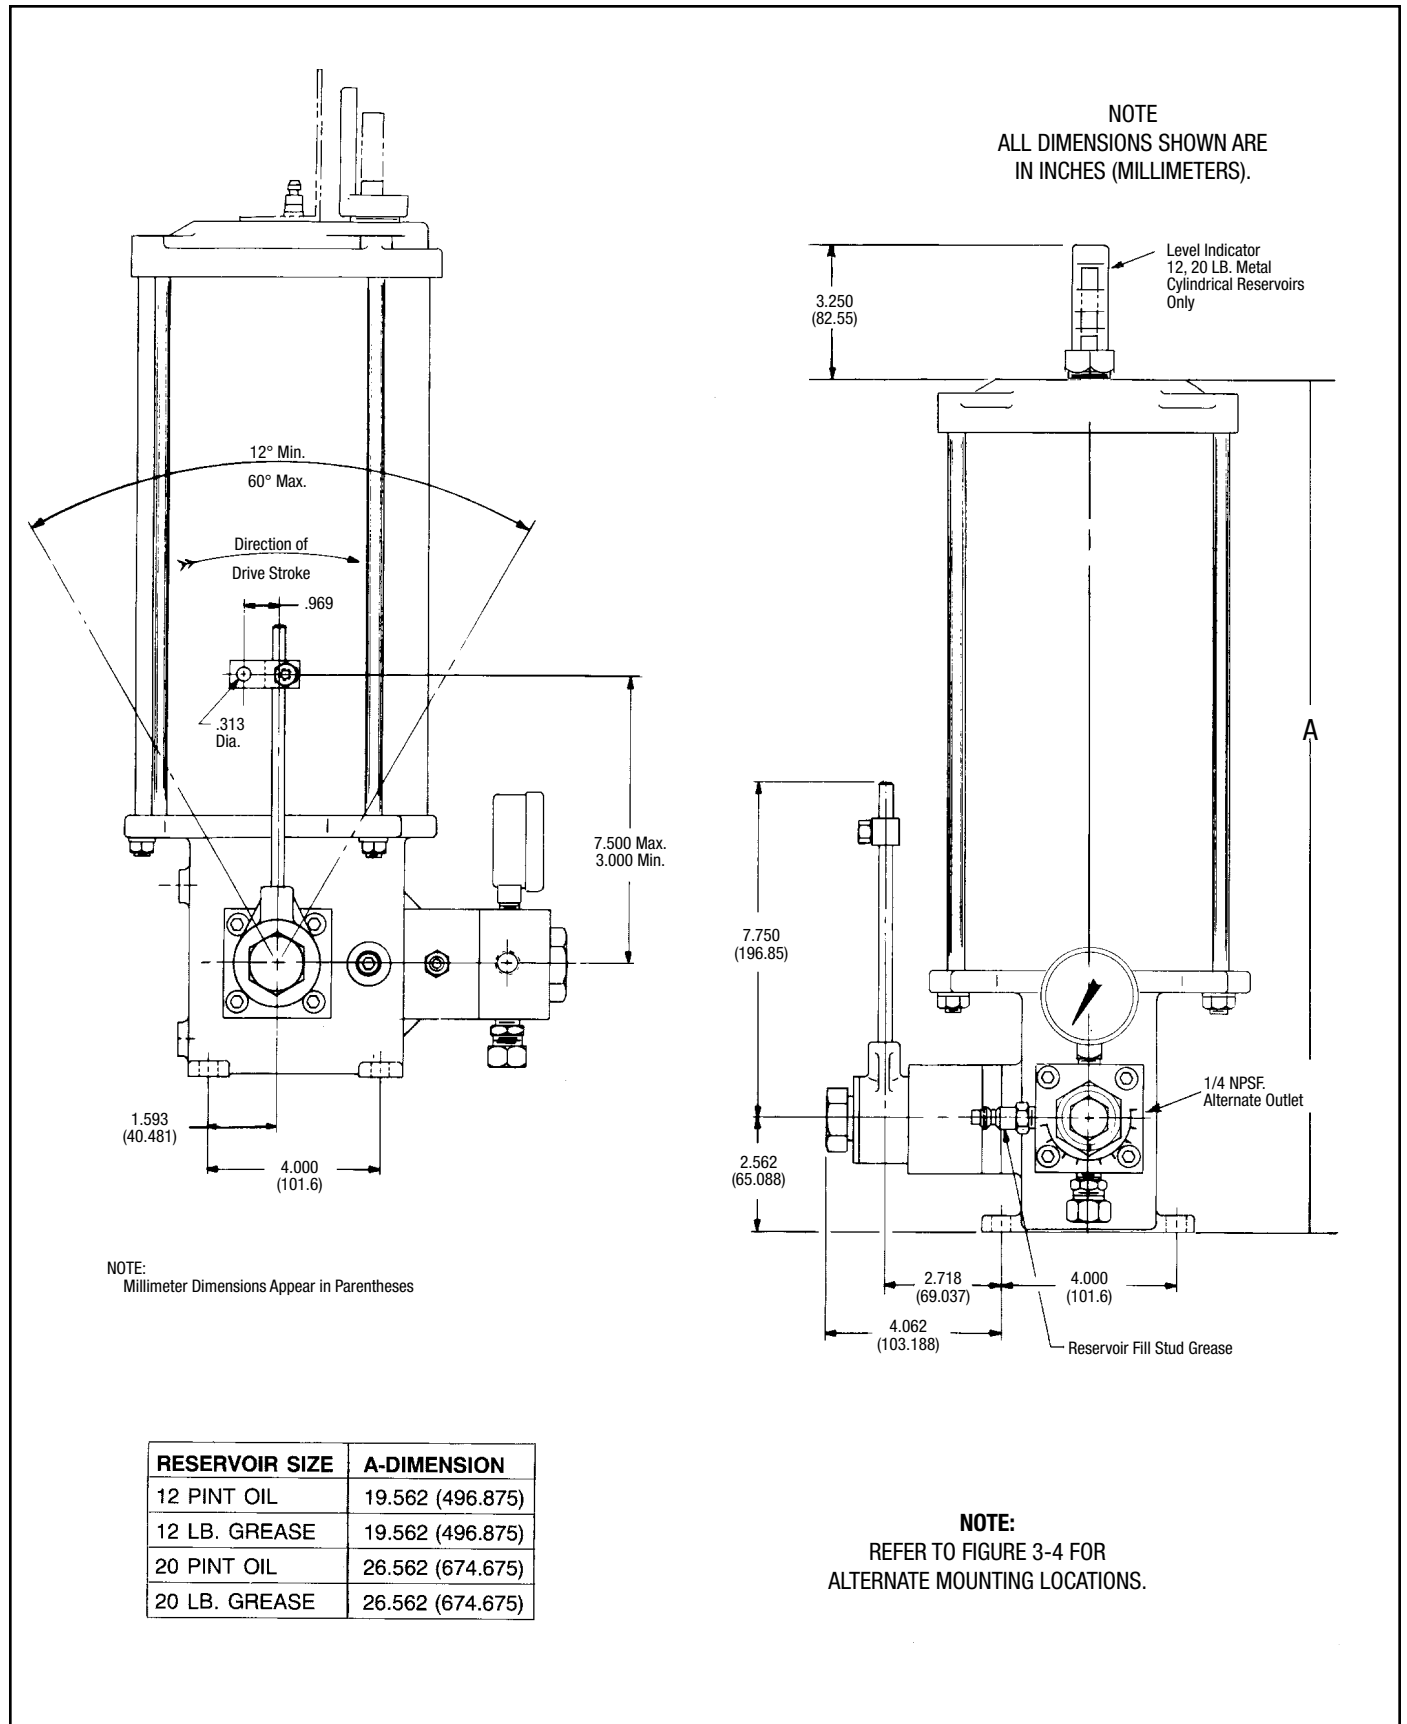

Figure 4-3. Clutch Drive Dimensions
4.2.1.1 Clutch Drive. Mounting dimensions for a LUBEMASTER Pump with the Clutch Drive Option are provided in Figure 4-3. It can be wall-mounted on one of two sides or foot-mounted on a machine or suitable base. Mounting dimensions, thread sizes and through-hole clearance sizes are shown in Figures 4-3 and 3-4. The pump must always be installed with the reservoir in a vertical position to ensure proper operation.